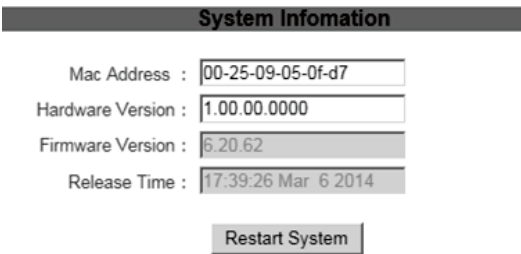

Figure18
6. Click “System”, click “Restart System” button (Figure18), when it appears “for about 10s”, the set up complete(Figure19).